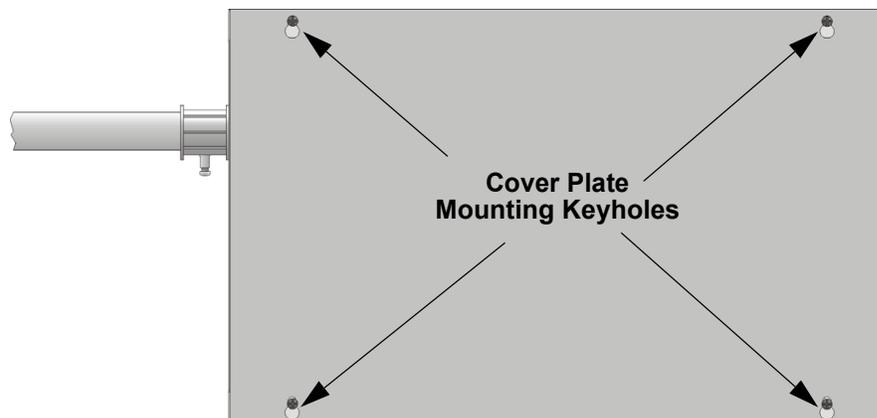

Figure 4.8 Cover Plate Mounting Keyholes and Cover Mounting Screws Alignment
- Align the cover plate mounting keyhole over the cover mounting screws. See Figure 4.8.
- Slide the cover into place and tighten the cover mounting screws. See Figure 4.8.